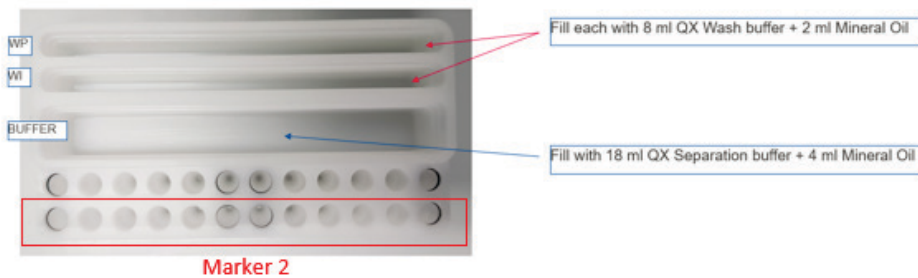

Figure 1. Buffer tray setup
3. Place the tube strip into position Marker 2 of the buffer tray (see Figure 1).